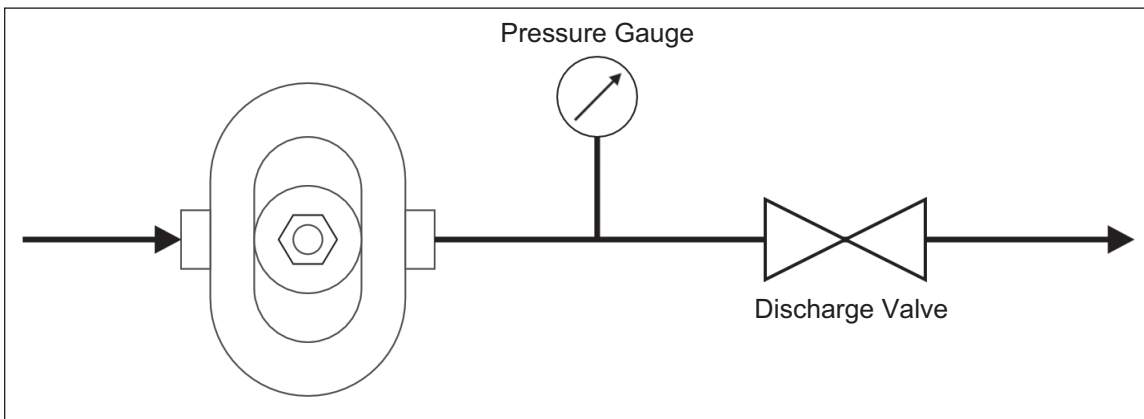

Figure 69. Vented Cover Adjustment
1. Install a pressure gauge and valve in the discharge line as shown in *Figure 69*.